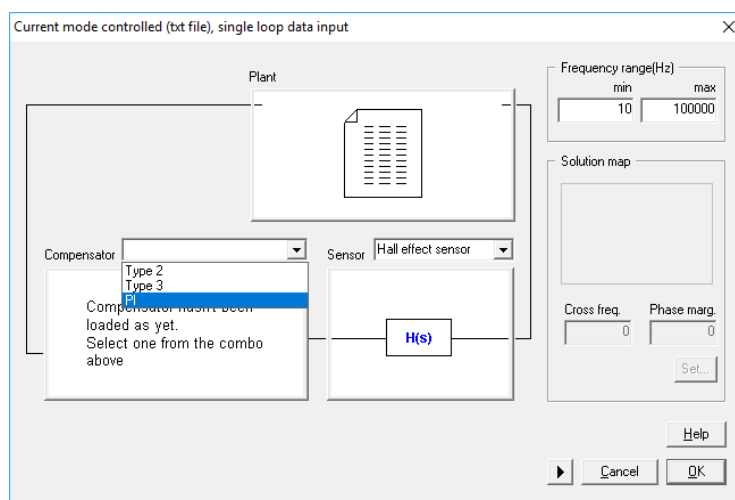
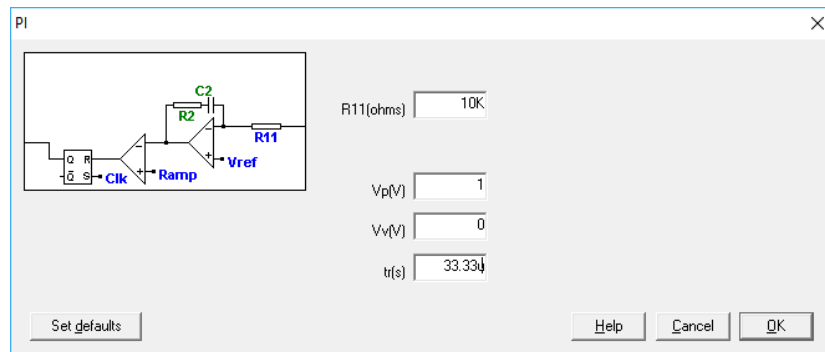

Figure 10: Compensator choice
Figure 11: PI compensator parameters
4. Select a PI compensator. See Figure 10 and type the values shown in Figure 11.
For an equivalent analog implementation of the compensator, it is necessary to set the modulator gain and the value of the resistance “R11”. In this case the resistance value is not important because the PI regulator to be implemented in PSIM is given by the values of the proportional gain and the time constant. Once the values of Figure 11 have been introduced press OK.